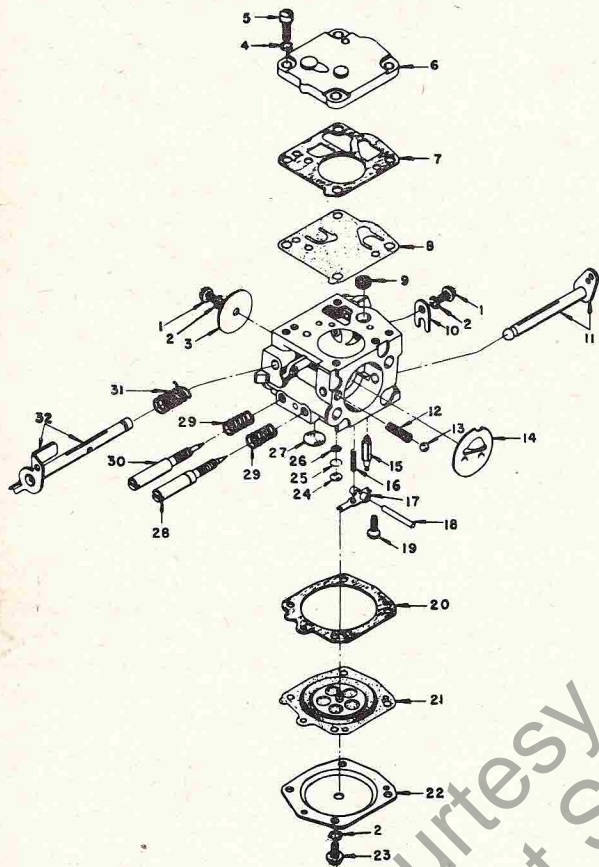
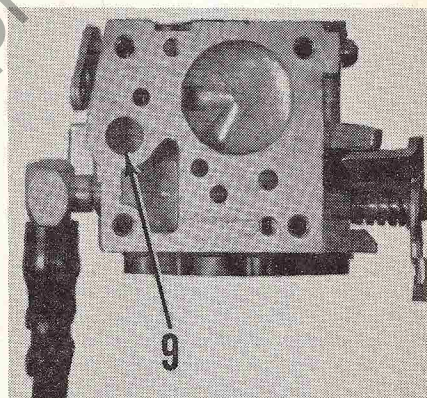
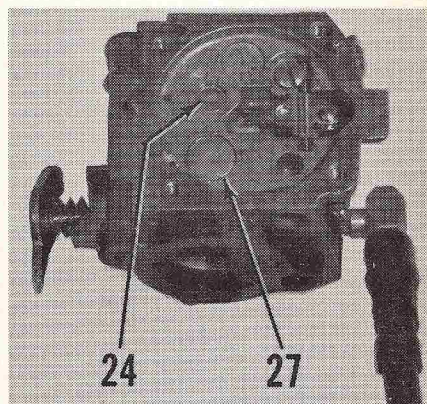

Fig. HL75 — Exploded view of Tillotson series HL carburetor used on models XL-700, XL-800 and XL-850. Refer also to Figs. HL76 through HL80.
Fig. HL77—Be sure to clean or renew screen (9) when servicing carburetor.
Fig. HL78—View of carburetor showing location of expansion plugs (24 and 27). Channel screen (26—Fig. HL75) is located under plug (24).
**CARBURETOR.** A Tillotson series HS-26A diaphragm type carburetor with integral fuel pump is used on all models. Refer to Fig. HL75 for exploded view.
When servicing carburetor, refer to Figs. HL77 through HL79 as well as to exploded view in Fig. HL75. Slide screen (9—Fig. HL77) from bore to clean or renew. If passages are choked, plugs (24 and 27—Fig. HL78) may be removed for cleaning pur-